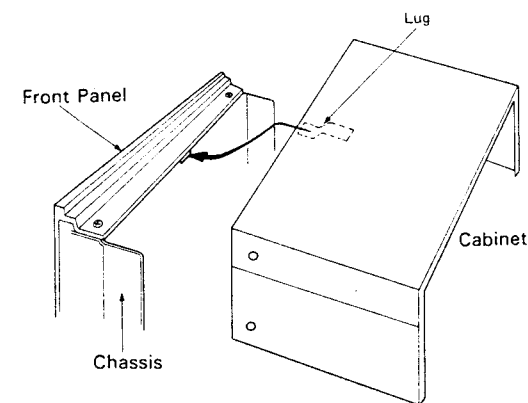

Fig. 7
4. When the cabinet is installed, insert the lug of cabinet into the space between the front panel and chassis as shown in fig. 7.